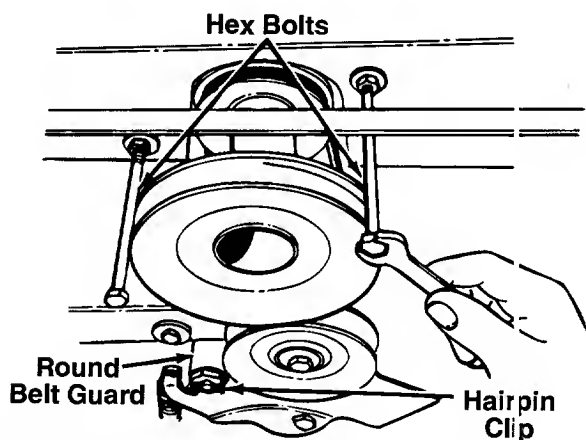

FIGURE 12.
1. **Models 145V834H and 145W834P:** Working beneath the tractor, remove the round belt guard from the idler by removing the hairpin clip. See figure 12. Remove the two hex bolts which act as belt keepers by the engine pulley.
9. **Models 145V834H and 145W834P:** Replace the round belt guard by the idler pulley (hex side down). Replace the hex bolts (belt keepers) by the engine pulley. Refer to figure 12.